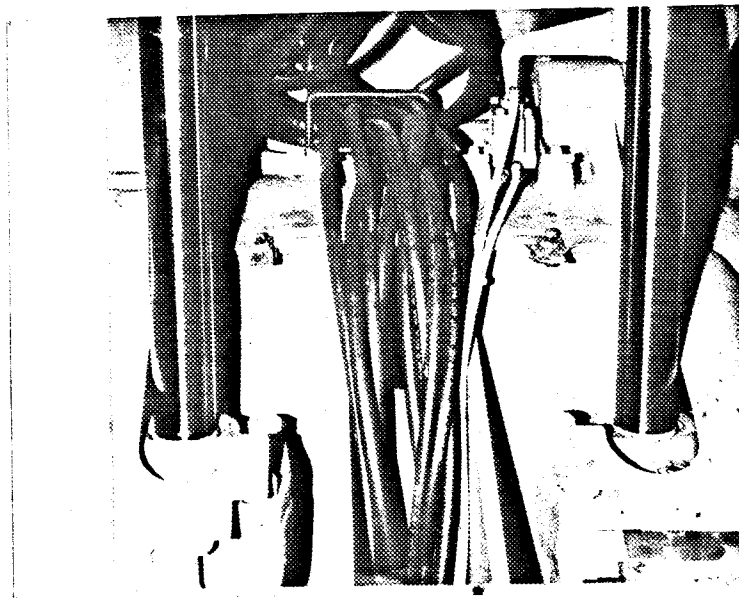

Figure G-8. Tirehand Hose Routing
13. Install the hoses between the valve bank and the Tirehand. The hoses must be looped up between the arms and routed through the hose retaining bracket (Figure G-8).